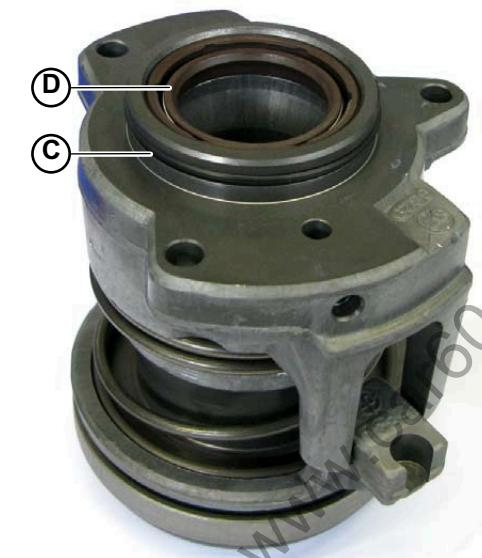

Fig.8
4. Assemble the O-ring (C-Fig.8) on the clutch sleeve with Kuril K2 and lightly grease the internal edge of the seal (D-Fig.8).